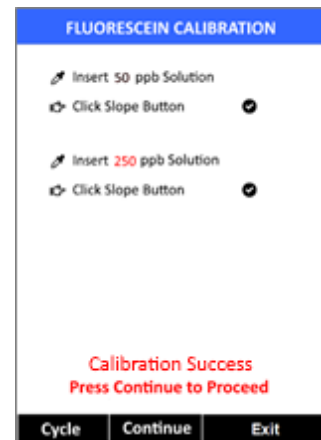

Figure 30
14. If calibration is successful, the screen will update with a third checkmark for the Slope setting as in Figure 30, and the message Calibration Succeed will appear.
15. Press **Continue** to continue high range fluorescein calibration (Figure 30). The default fluorescein selection is displayed in red. If high range fluorescein calibration is not required, press **Exit** to exit to the main screen.